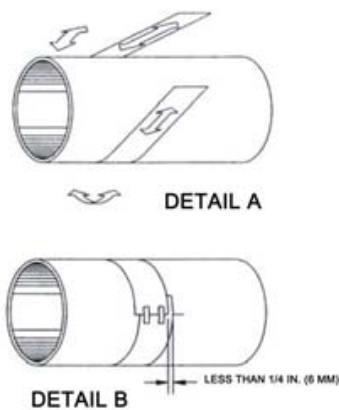

Figure 2.4
1. Wrap the paper around the pipe in the manner shown in **Figure 2.4**. Align the paper ends to within 0.25 inches [6 mm].